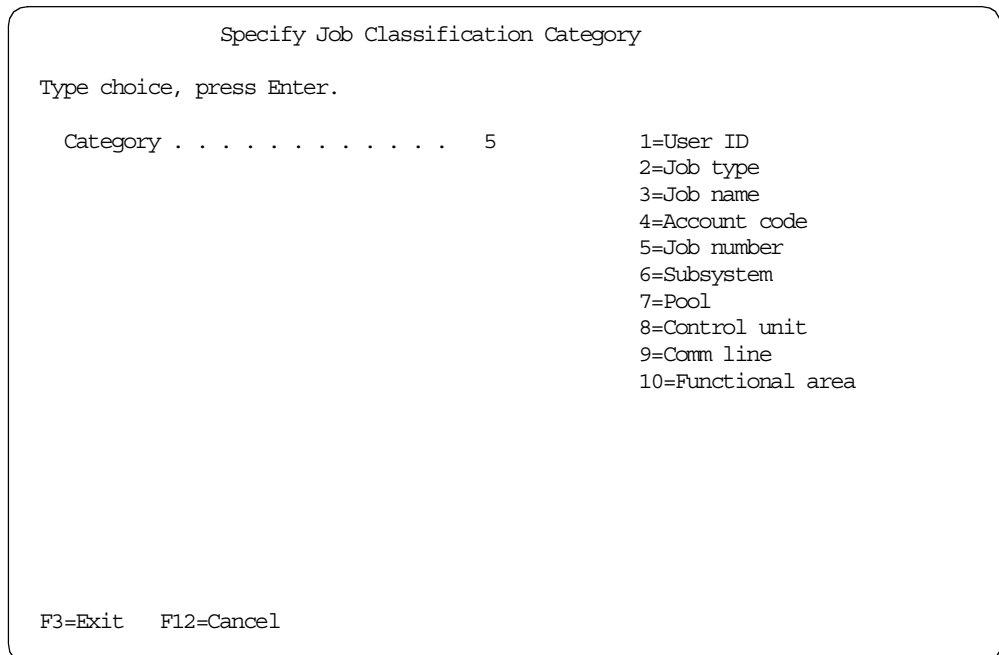

Figure 342. Specify Job Classification Category
8. The display that appears (Figure 342) allows you to select the job category you want to use in assigning the AS/400 server jobs to workloads. Select the category that can assist you in defining your workloads. For example, if each of the server workloads run in separate subsystems, you may select option 6, Subsystem, as the classification category.